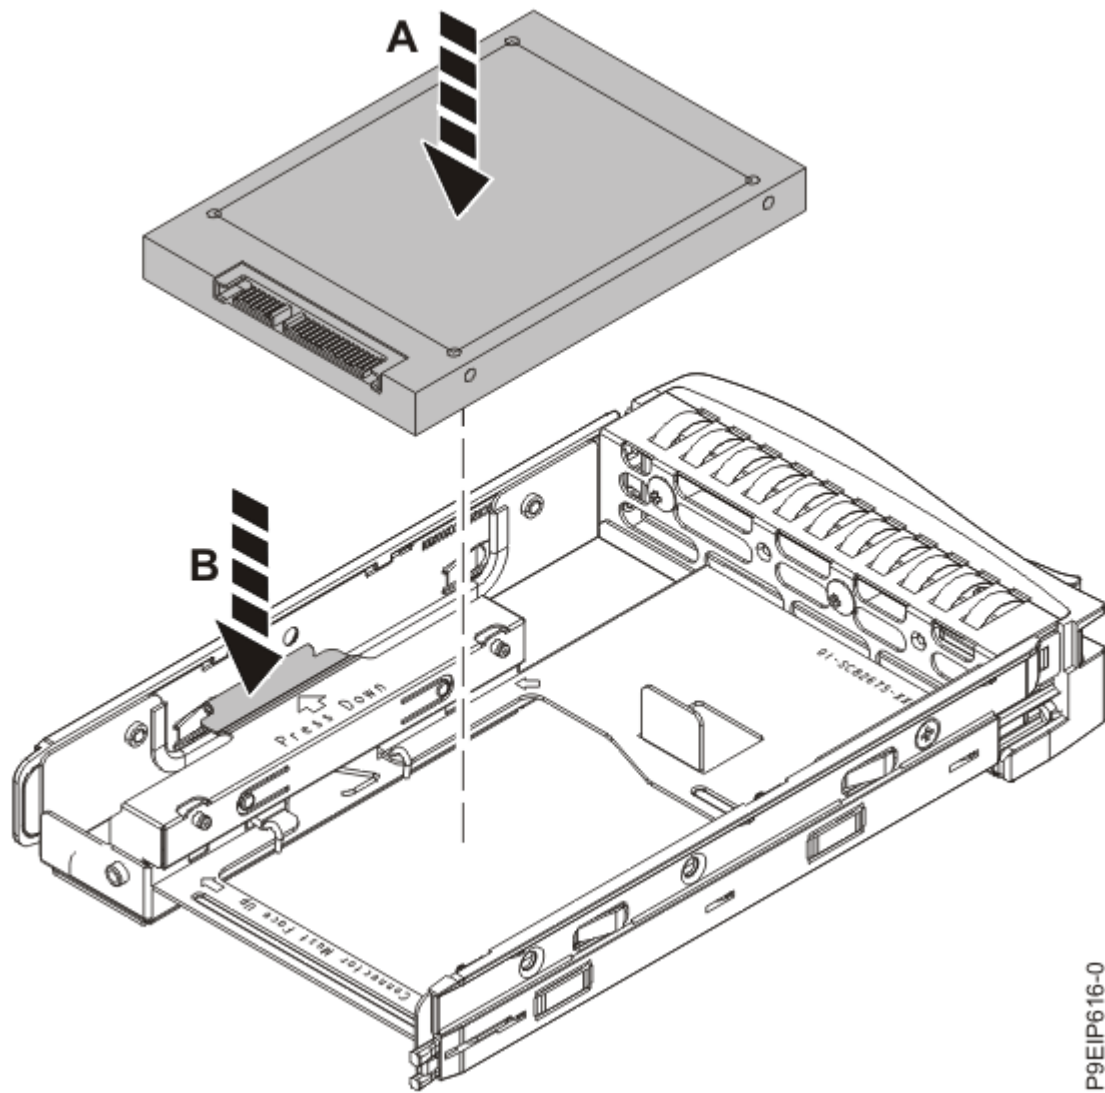

Figure 10. Mounting the 2.5-inch drive in the tray
- b. Open the retention spring **(B)** as shown in Figure 10 on page 15.